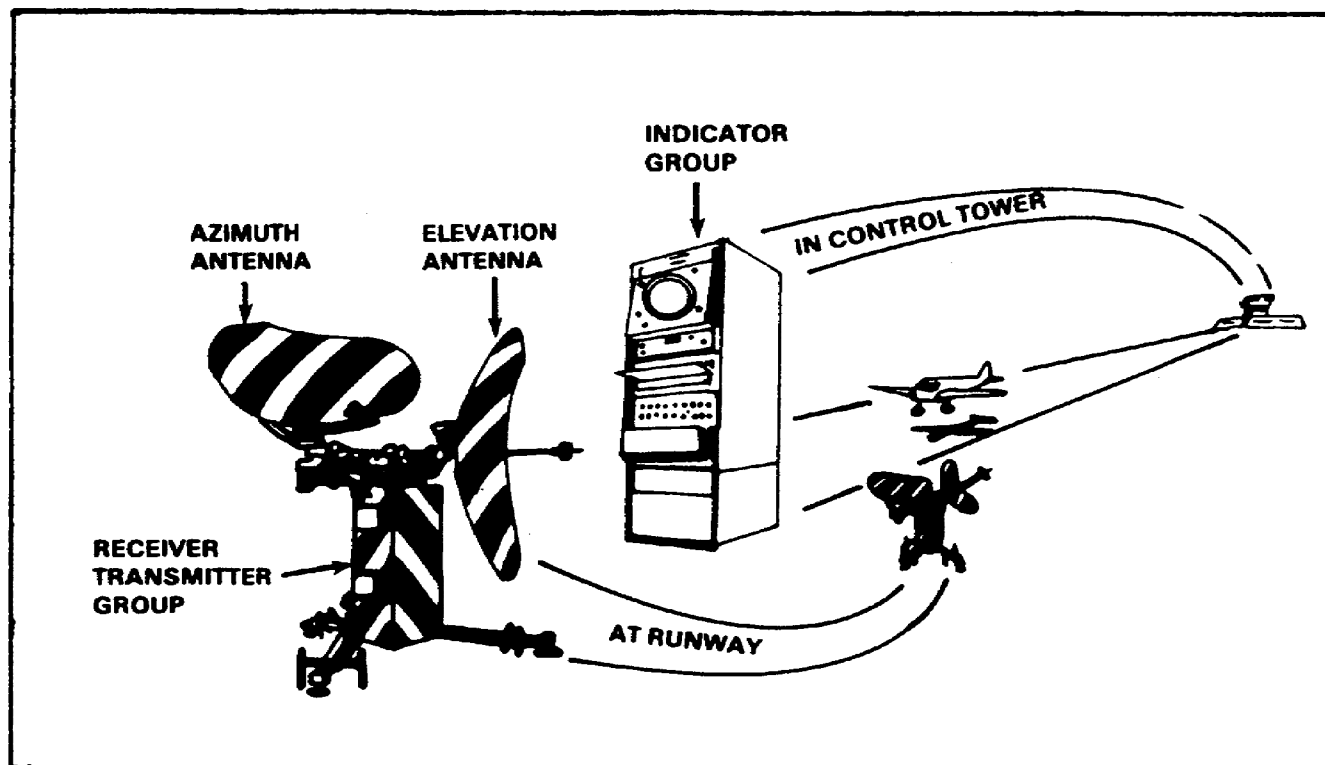

Figure 1. GCA radar set AN/FPN-40.
1. This parallel resident/extension training package consists of a lesson which is designed to provide you with the skills and knowledge necessary to align sine-cosine converters in synchronizer-generator SN-386/FPN-40, the elevation servo strobe; and adjust the B-trigger delay of radar set AN/FPN-40. (See Figure 1.)
a. Locate the control-indicator group OA-2664/FPN-40 of radar set AN/FPN-40. (See Figure 1.)